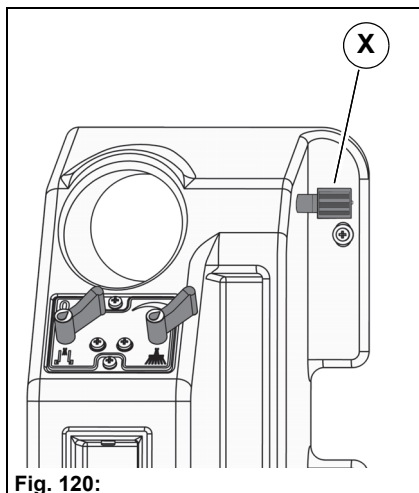

Fig. 120:
2. Raise the front tool carrier and fix it in the upper position with the lowering valve Fig. 120-X.
7. Open the lowering valve Fig. 120-X again.